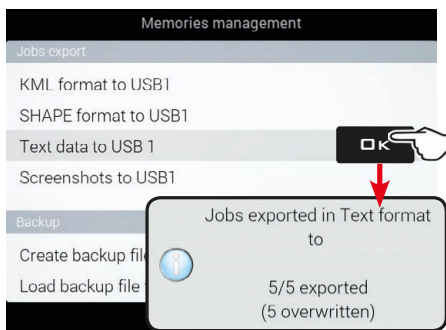

Fig. 298
- Select **Text data to USB 1** (Fig. 298) and press **OK**.